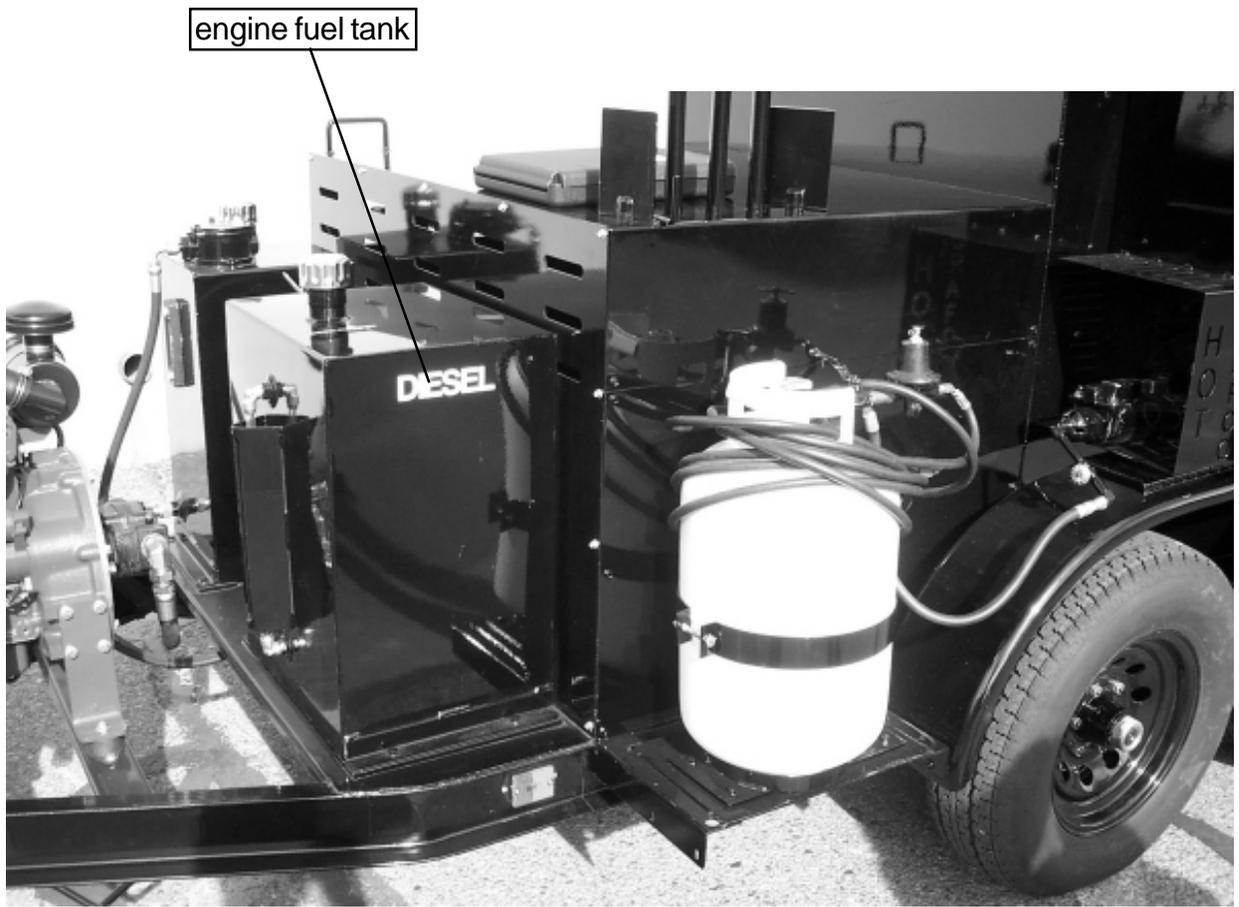

Fig. 7
6. Fill engine tank with diesel fuel - **DO NOT FILL ENGINE FUEL TANK WHEN BURNER'S LIT (see Fig. 7).**